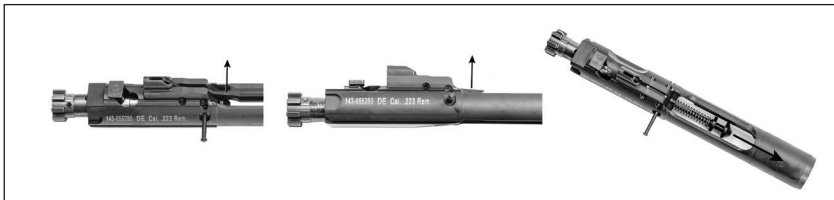

Fig. 20 – Remove the Firing Pin and Firing Pin Spring
- c. Lift up on the spring loaded drop safety and remove the firing pin and firing pin spring (Fig. 20).